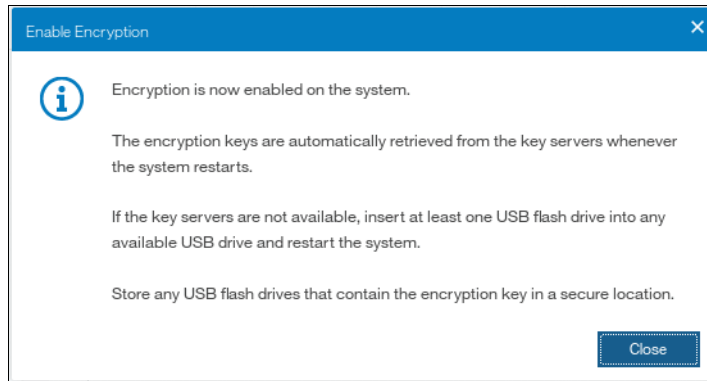

Figure 13-58 Confirmation of successful configuration of two encryption key providers
2. After you click on **Configure**, you will be presented with a wizard similar to described in 13.4.2, “Enabling encryption using USB flash drives” on page 722. Note that you will not be given an option to disable SKLM provider during this process. After successful completion of the process you will be presented with a message confirming that both encryption key providers are enabled, as shown in Figure 13-58 on page 743.